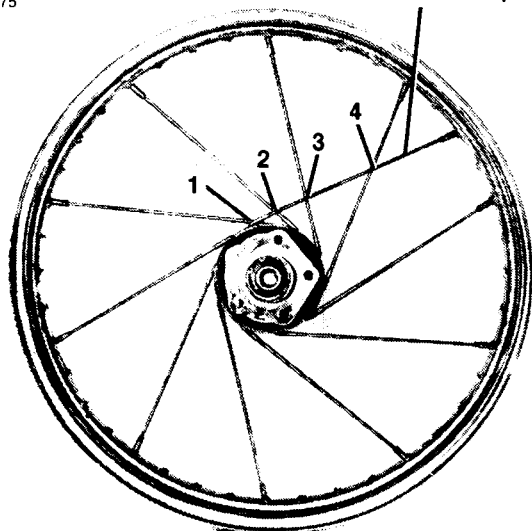

Figure 3. Cross — 4 Pattern
6. See Figure 3. Swing the outer spoke in the opposite direction crossing over four inner spokes, and secure the spoke in the nearest hole angled towards it. Repeat the procedure for all outer spokes.